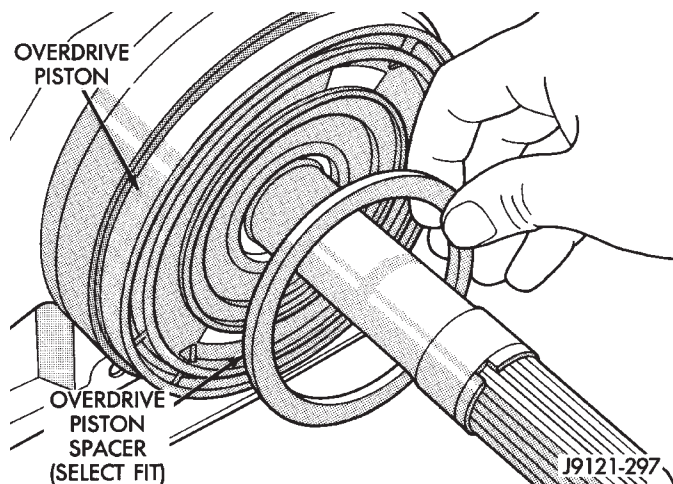

Fig. 193 Overdrive Piston Thrust Plate Removal/Installation
(1) Remove overdrive piston thrust plate (Fig. 193). Retain thrust plate. It is a select fit part and may possibly be reused.